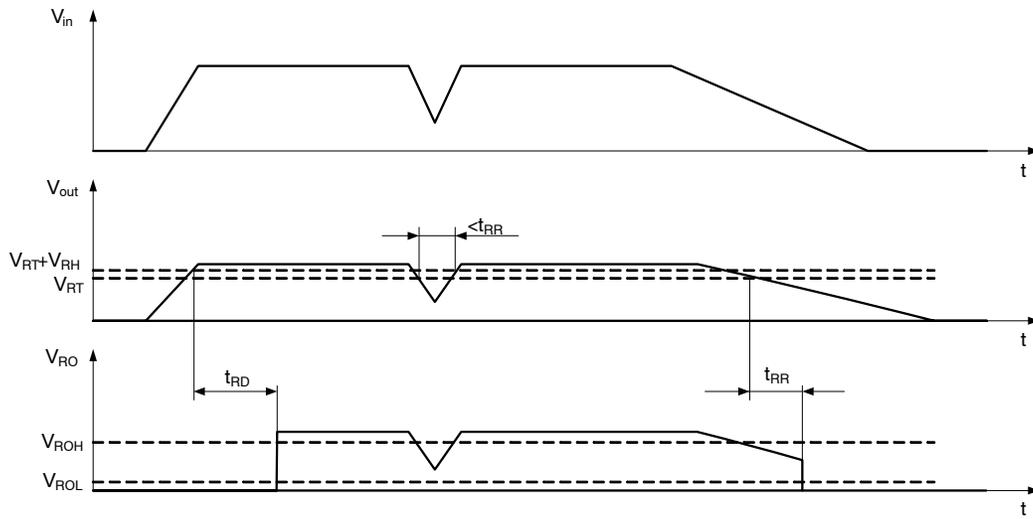

Figure 28. Reset Function and Timing Diagram
A reset signal is provided on the Reset Output (RO) pin to provide feedback to the microprocessor of an out of regulation condition. The timing diagram of reset function is shown in Figure 28. This is in the form of a logic signal on RO. Output voltage conditions below the RESET threshold cause RO to go low. The RO integrity is maintained down to V_{out} = 1.0 V. The Reset Output (RO) circuitry includes internal pull-up connected to the output (V_{out}) No external pull-up is necessary.